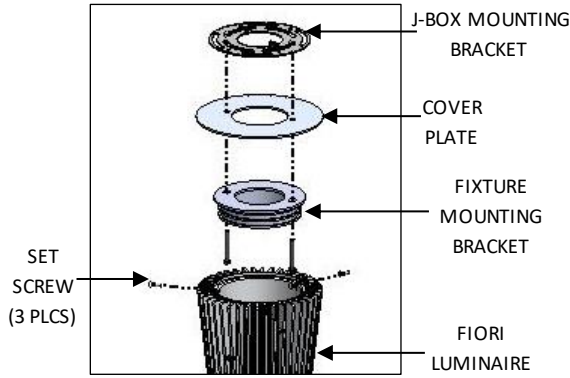

FIG. 7 – FIORI DIS ASSEMBLY
1. Unscrew SETSCREWS 3 places and Separate J-box, mounting bracket, cover plate and fixture mounting bracket out of LUMINAIRE as shown in FIG 7.